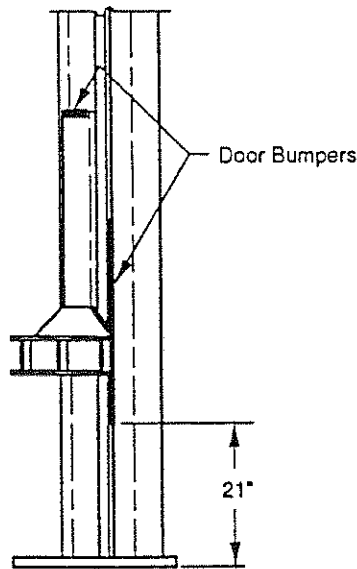

Fig. 21
- 1) Press 18" bumper on column edge, Fig. 21.
- 2) Press 6" bumper on top edge of carriage tube, Fig. 21.